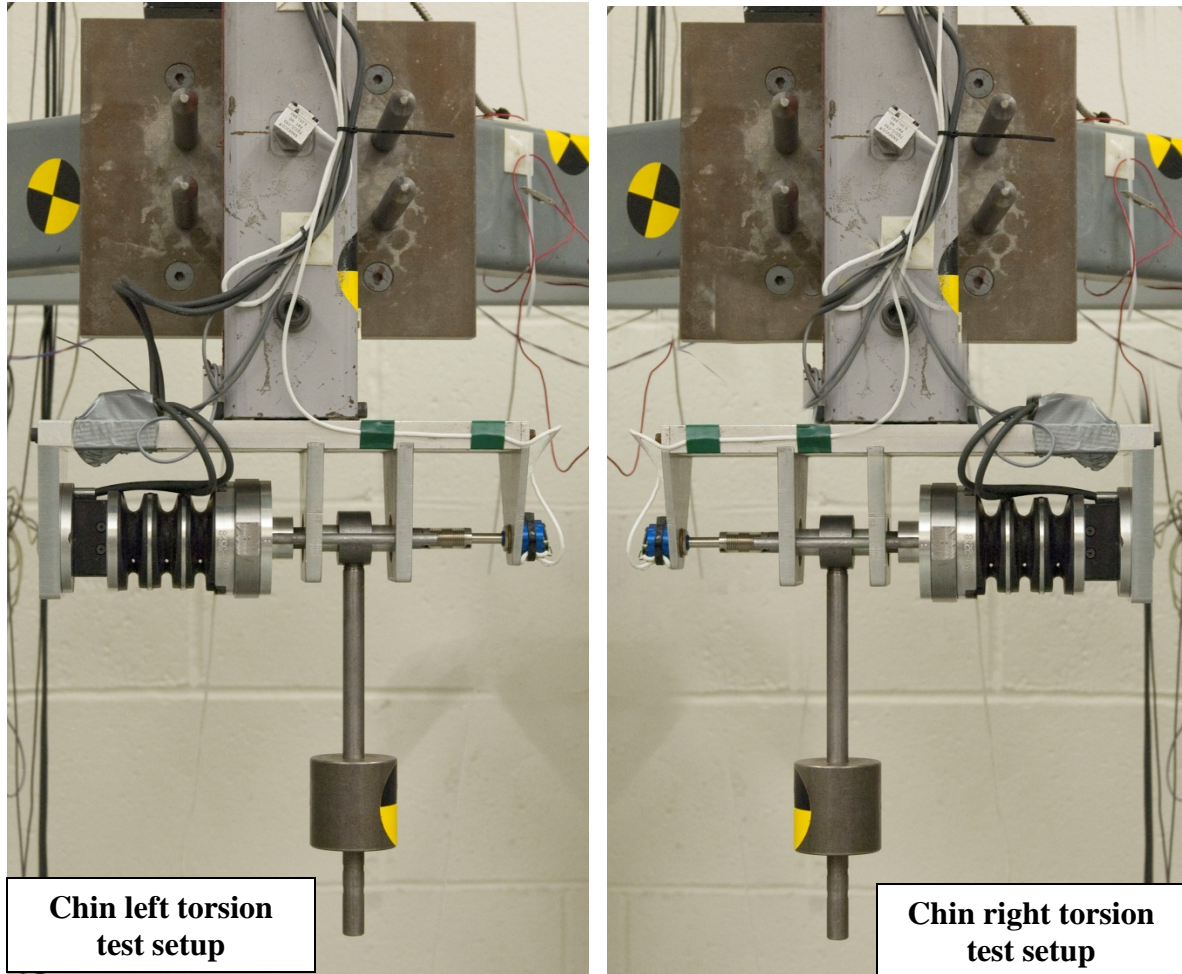

Figure 54. Torsion test setups for chin left and chin right side tests
- Remove the entire assembly from the pendulum, rotate it 180 degrees and reassemble the neck mounting plate to the pendulum (Figure 54).